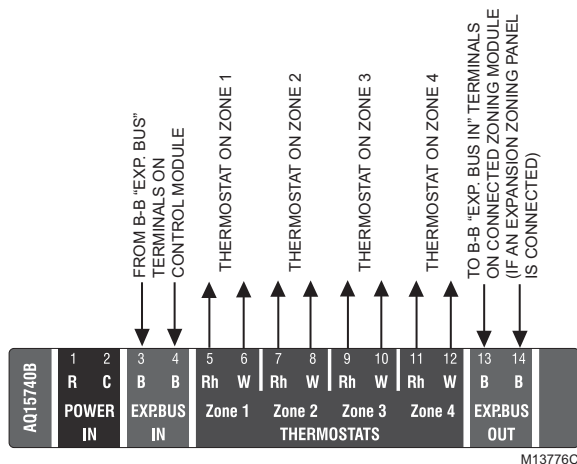

Fig. 9. Connecting AQ1000 thermostats.
1. Using low voltage thermostat wire, connect one AQ1000 communicating thermostat from each zone to the corresponding TH inputs on top of the Zoning Module (see Fig. 9 on page 9).